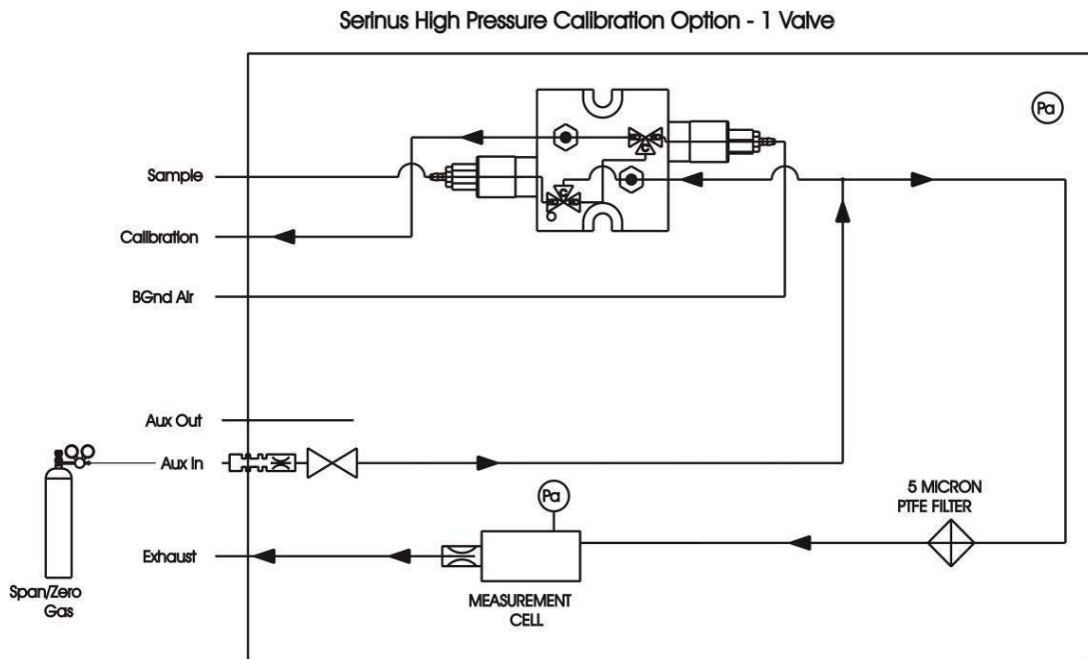

Figure 49 – Single high pressure calibration option
2. Connect a line of stainless steel tubing between the gas cylinder and the analyser’s **Auxiliary Port** inlet (refer to Figure 49).